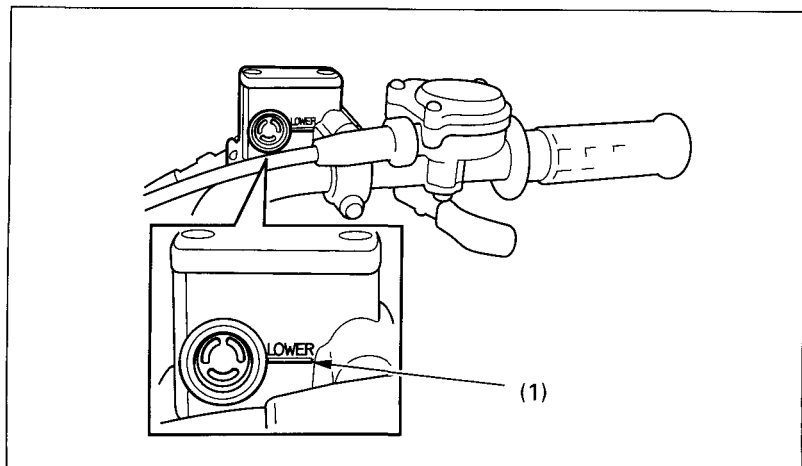

Fig. 4-28
Brake fluid must be added to the reservoir (Fig. 4-28) whenever the fluid level approaches the lower level mark (1). Use only DOT 3 or 4 brake fluid and have it added by an authorized Honda dealer.